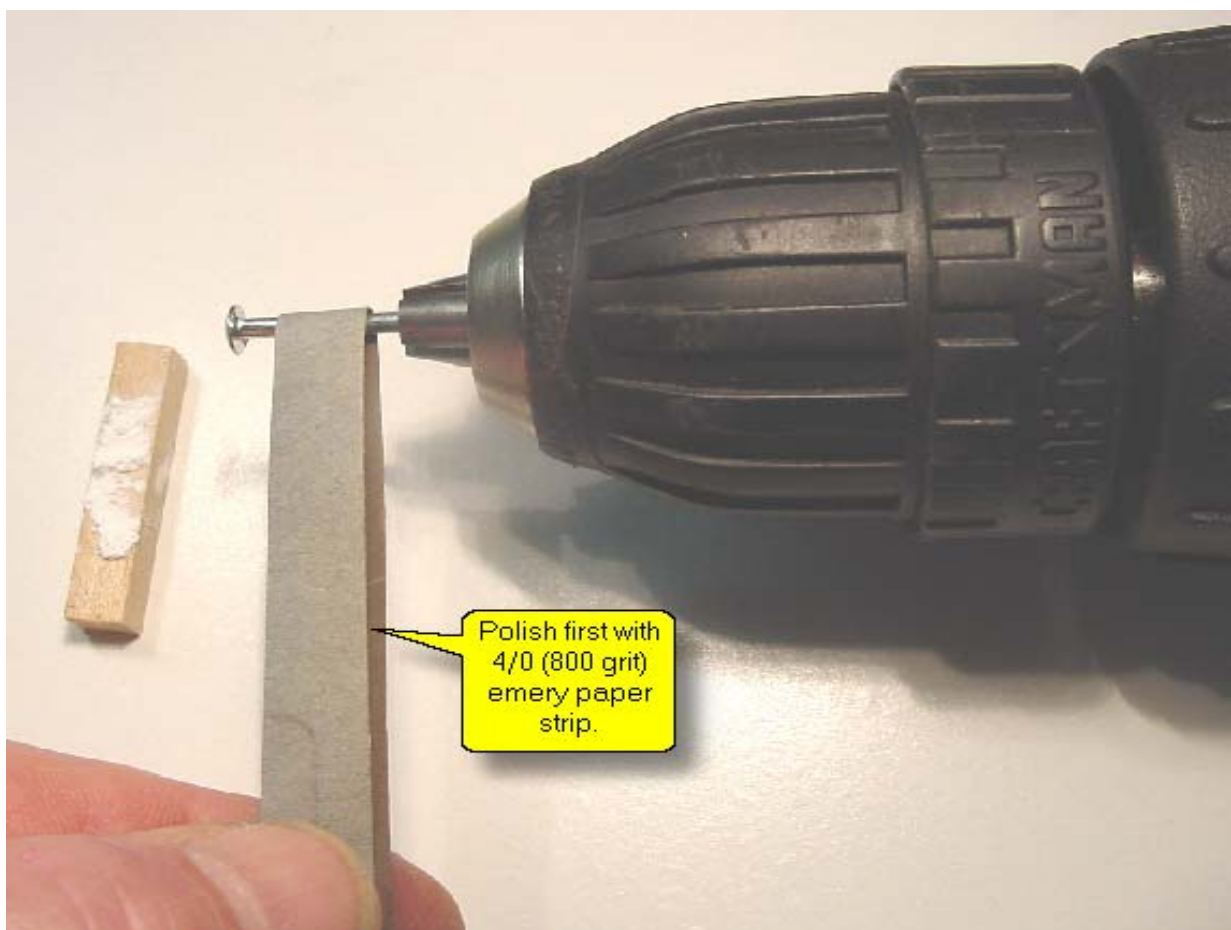

Figure 5 - An electric drill being used to rotate the axle for polishing shown here with the emery paper strip.
- Apply the 4/0 emery paper strip (item 5 in the Grab Bag) for approx. 15 seconds to the shaft as in **Fig. 5**. Then use a basswood block, like the one shown with alumina powder on it here, to force the emery paper flat against the underside of the axle head to smooth down the area, especially file marks from the previous deburring. Do not use fine sandpaper, even 600 grit will scratch the axle surface.